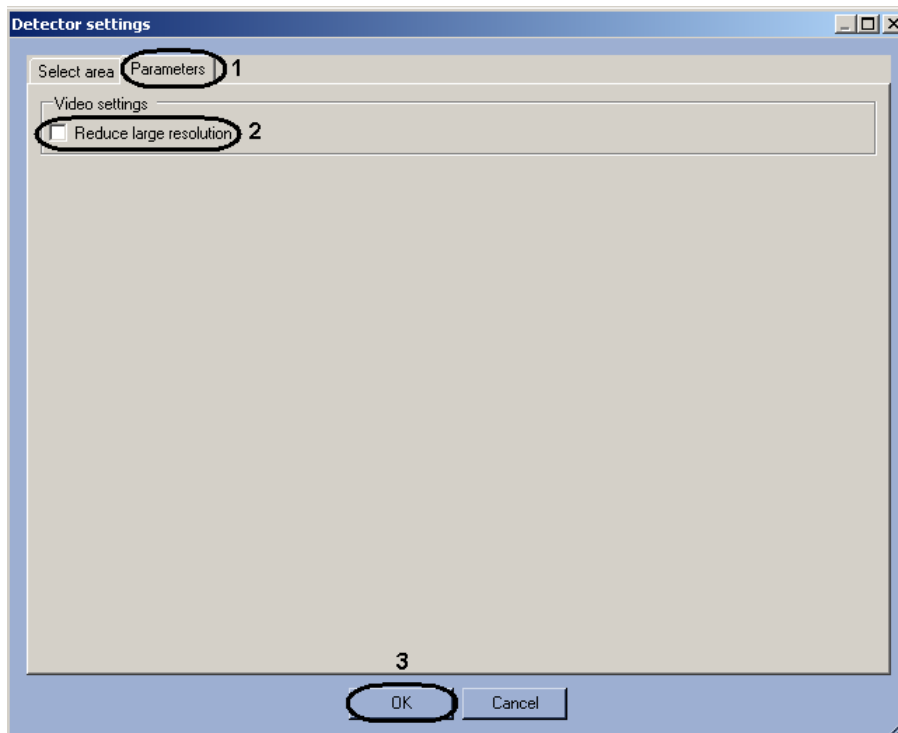

Fig. 6.2—6 Configuring the People counter detector module parameters
5.2. Set the **Reduce large resolution** checkbox to create and process the new frame consist of even lines of initial frame (see Fig. 6.2—6, 2).
6. Click **OK** (see Fig. 6.2—6, 3).